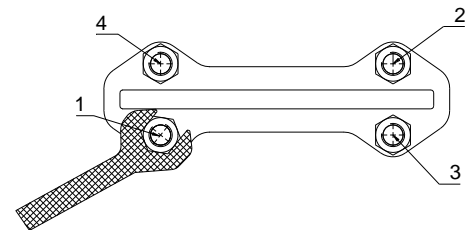

Figure 4: Tighten gland nuts crosswise
16. Put pressure on the gland **(8)** by tightening the nuts **(8c)** gradually and crosswise, see figure 4. The box packing must be equally compressed all around. Recommended torque for gland nuts, see section D.
- i. Lift off the cylinder (18).
- j. Demount the beam (7) and tie rods (5) from the valve.
4. Loosen the nuts (8c) on the gland (8).
5. Lift off the gland (8) from the stud bolts (8a).
6. Remove the box packing braids (9) and the box bottom scraper (9a).
8. Push down the box bottom scraper (9a) into the bottom of the gland box. Install the first braid (9) on one of the long sides of the gate (6). Use a blunt tool in plastic or wood and a hammer to push the braid into the box. Make sure that the braid ends meet properly. It is important to push the first braid evenly into the bottom of the box. The joint of the second and third braid must be placed on the opposite long side of the joint of the previous braid, not on top of each other.
9. Place the gland (8) on the stud bolts (8a).
11. Put pressure on the gland (8) by tightening the nuts (8c) gradually and crosswise, see figure 4. The box packing must be equally compressed all around. Recommended torque for gland nuts, see chapter D.
12. The gland (8) must put a uniform pressure on the box packing (9). The gland (8) must also be in line with the gate (6) with the same distance between the gland and the gate all around. Check that there is no metal contact between the gland (8) and the gate (6).